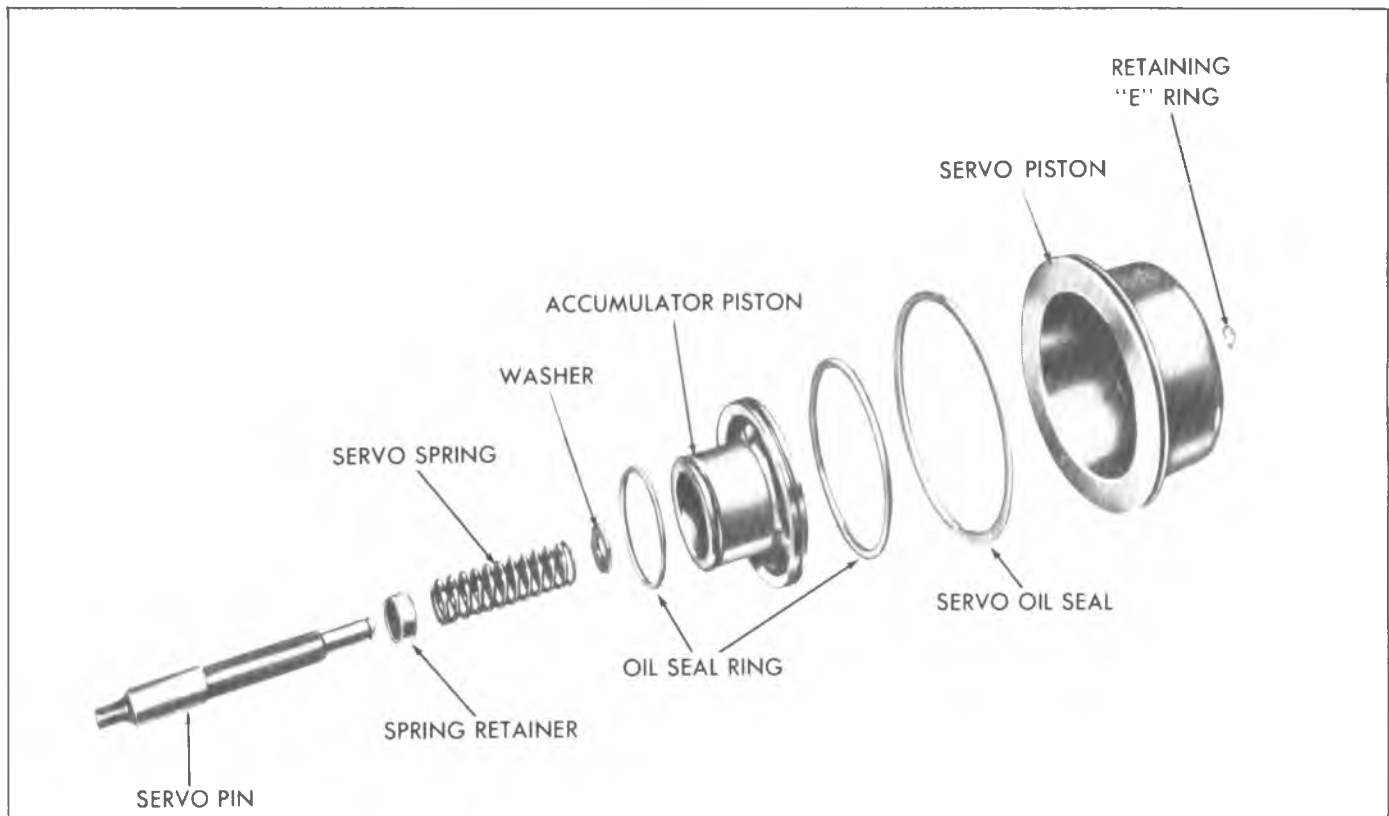

Fig. 52T--Rear Servo and Accumulator Assembly -Exploded View
3. Remove rear servo piston and seal from servo pin (fig. 52T). (Exploded view.)
NOTE: See figure 52T. Do not remove the teflon oil seal rings from the rear accumulator piston, unless the oil seal rings require